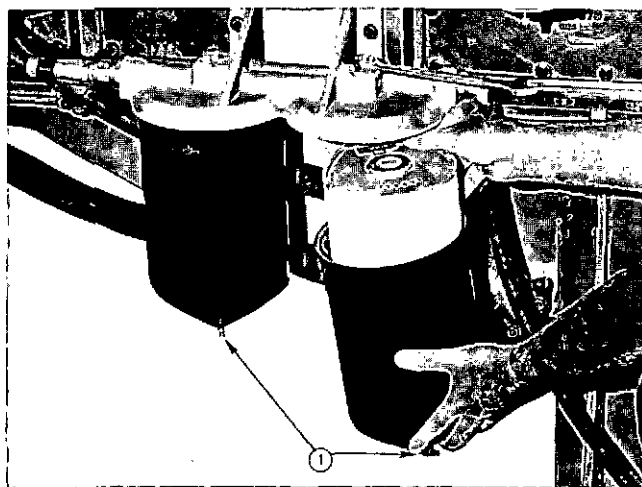

Fig. 5-19, V40040. Replaceable element fuel filter
2. Loosen nut(s) at top of fuel filter(s). Take out dirty elements, clean filter case(s) and install new element(s). Fig. 5-19.